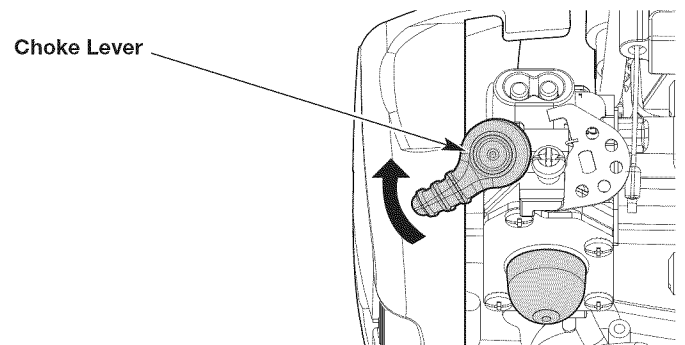

Fig. 6
4. Flip the choke lever clockwise until it clicks (Fig. 6).
**NOTE:** Always tilt the unit back slightly to bring the tines off the ground when starting the unit (Fig. 6).